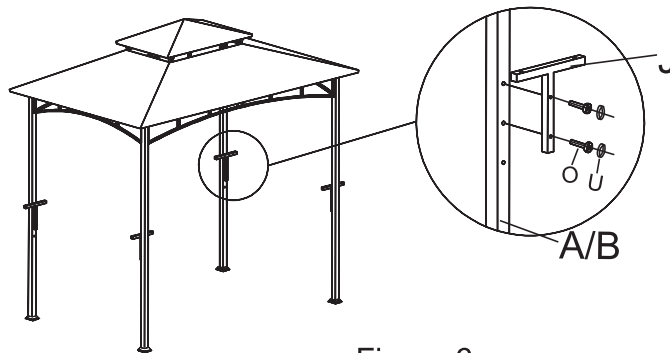

Figure 6
Connect the Shelf Support Frame (J) with the Pillars (A/B), using Bolt (O) and Bolt Cap (U). Repeat this step 4 times to assembly each of the Pillars (A/B) as shown in Figure 6.